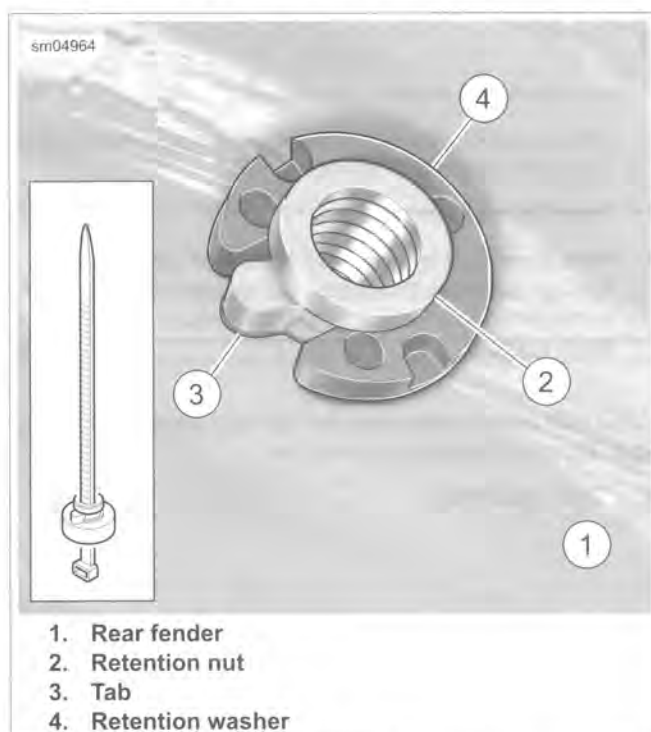

Figure 2-112. Install Seat Retention Nut
1. See Figure 2-112. Remove retention washer (4) and remove retention nut from fender.
2. See inset of Figure 2-112. Slide new retention nut onto a cable strap as shown. Insert into fender hole and hold with cable strap.
- Align tab (3) on retention nut and hold nut snug against underside of rear fender. Orient the retention washer (4) and install as shown. Remove cable strap.